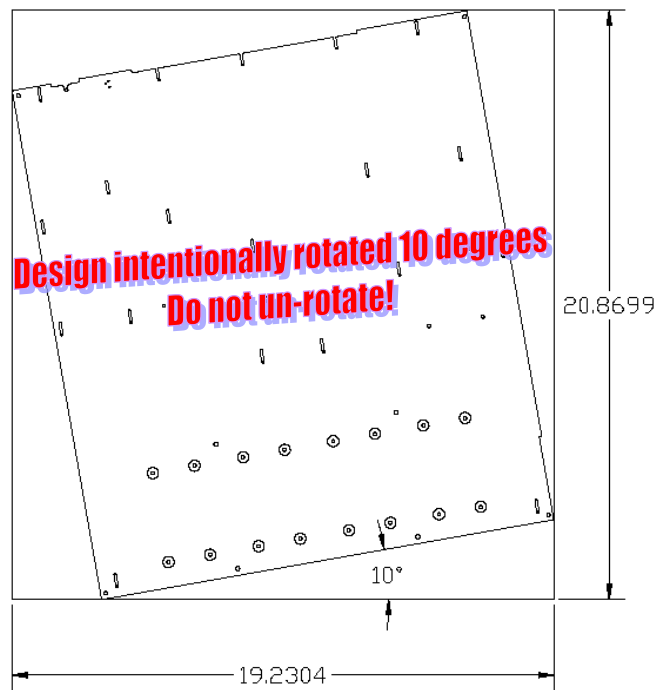

Figure 8: Fab Drawing Highlighting Intentional Design Rotation
1. Rotated artwork would need to be clearly spelled out as a requirement, else the manufacturer might un-rotate it to save money (see Figure 8)